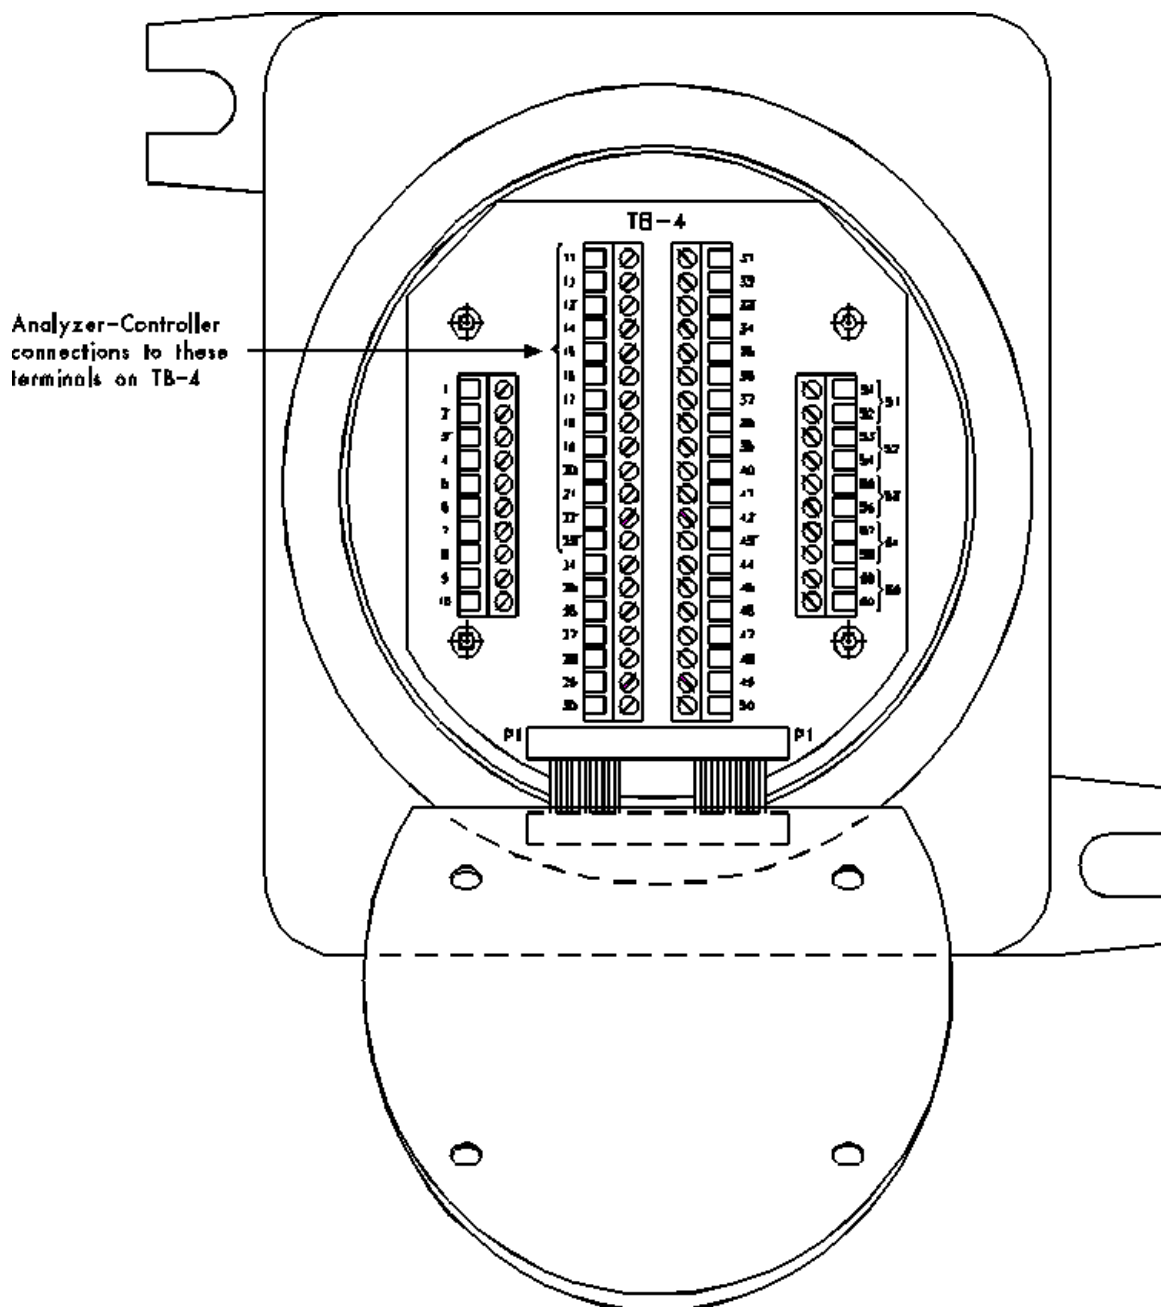

Figure 3-4. Valve Driver Board Resting Face Down from its Cable Allows Access to TB-4
4. With the Condulet cover removed, loosen and remove the four (4) thumbscrews that hold the Valve Driver board.
5. Carefully edge the Valve Driver board off the holding screws. Do not disconnect the Valve Driver board from the cable; merely let the board rest face down, secured by the cable (see Figure 3-4).